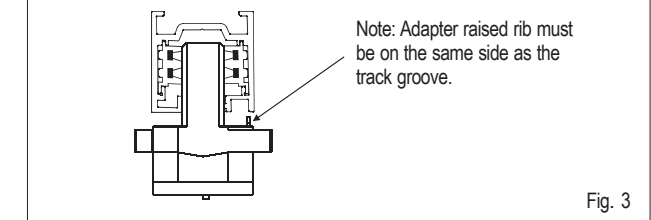

Fig. 3
5. Align the adapter raised rib with the corresponding groove in the track, then push the adapter into the track slot (Fig. 3).